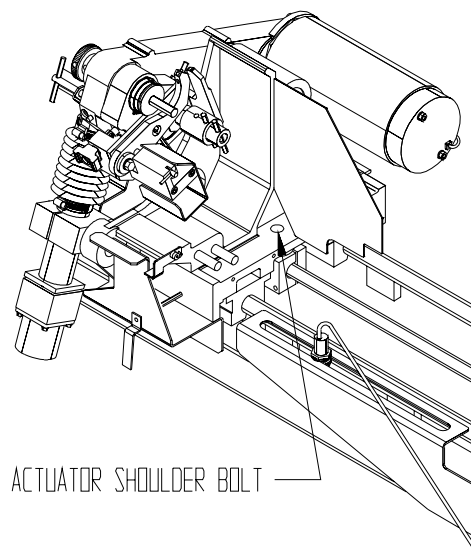

FIG. 11
STEP 1--Remove the shoulder bolt from the top side of carriage. See FIG. 11.